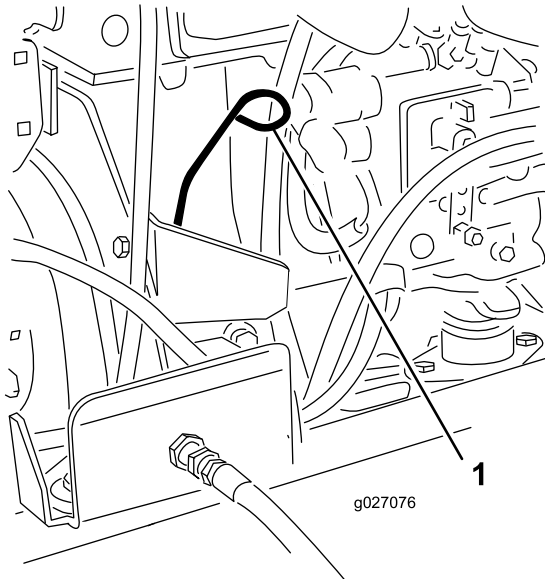

Figure 51
3. Remove the dipstick, wipe it clean, and install it (Figure 51).